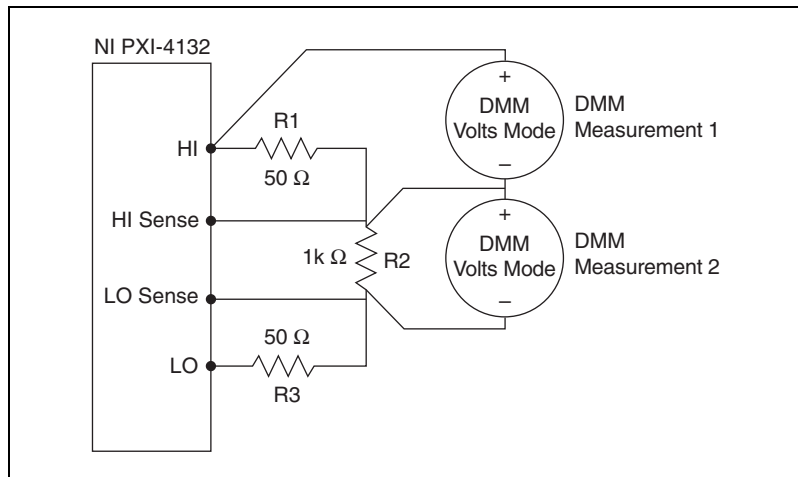

Figure 5. Remote Sense Output Verification Connection Diagram
1. Connect a 50 Ω (R₁), 1 k Ω (R₂), and 50 Ω (R₃) resistor in series, with the 1 k Ω resistor being the center resistor as shown in Figure 5.
2. Connect the resistors to the HI and LO terminals on the PXI-4132 as shown in Figure 5. Connect the remote sense leads directly across the 1 k Ω resistor (R₂).